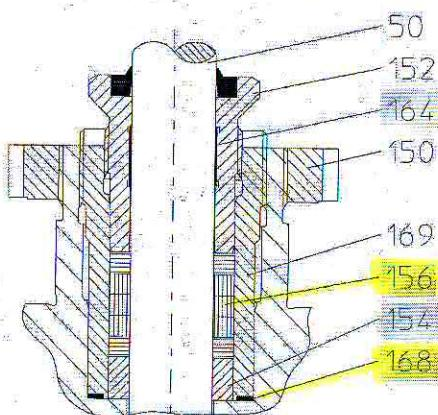

Fig. 1-Stuffing box package- Detail X
- Unscrew stuffing box screw (152)
- See also under **Fig. 1** on page 7
- Loosen screw-connection between body (1) and top flange (2).
- Take-off top flange (2).
- The plug (26) is eventually taken off together with the top flange (2).
- Pull plug (26) out of the top flange (2).
- Attention! Do not bend the spindle (50)!
- Remove packing set (156) and bottom ring (154).